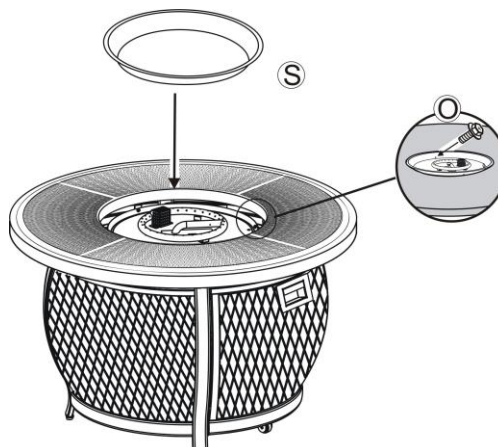
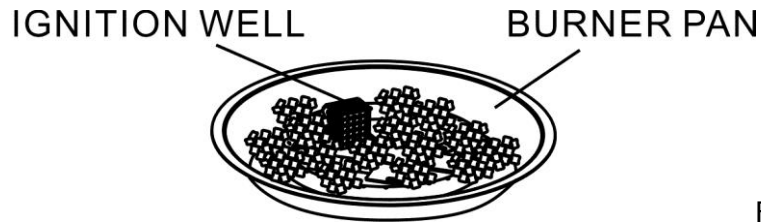

Figure 3
Figure 4
3. Place the burner pan protective ring into the firepan / burner assembly as shown in Figure 3. Align the holes in the burner pan protective ring with the pre-drilled holes on the firepan / burner assembly. Secure the burner pan protective ring to the firepan / burner assembly by using the three M4 screws as shown in Figure 4.
4. Pour ALL of the provided media (fire ice) into the burner pan. The burner MUST be completely covered to ensure the appliance functions properly and safely. Remove any lava rocks or fire ice on top of the ignition well. See Figure 4.